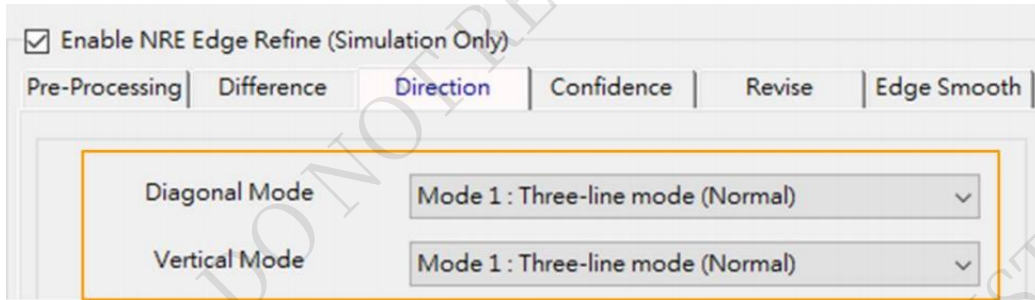
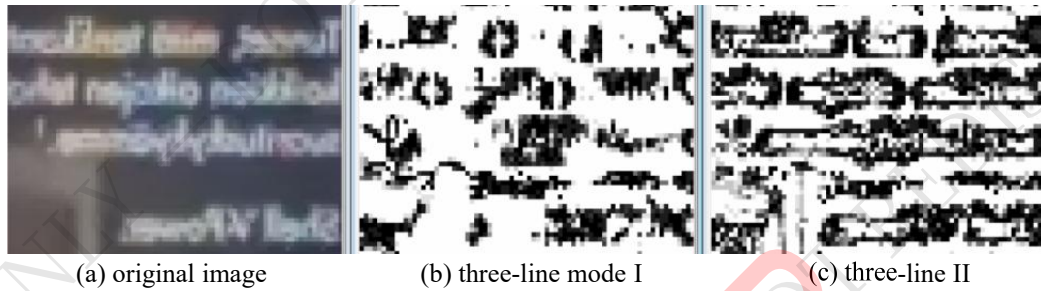

Fig 6.87 The **Direction** page.
Fig 6.91 The confidence map for case
Please refer to Fig 6.87 the direction page.
- We provide three modes for the user, the difference between them is shown in the Fig 6.87 -Fig 6.91 .
- ☐ Confidence style: three style curves, as shown in Fig 6.91 .